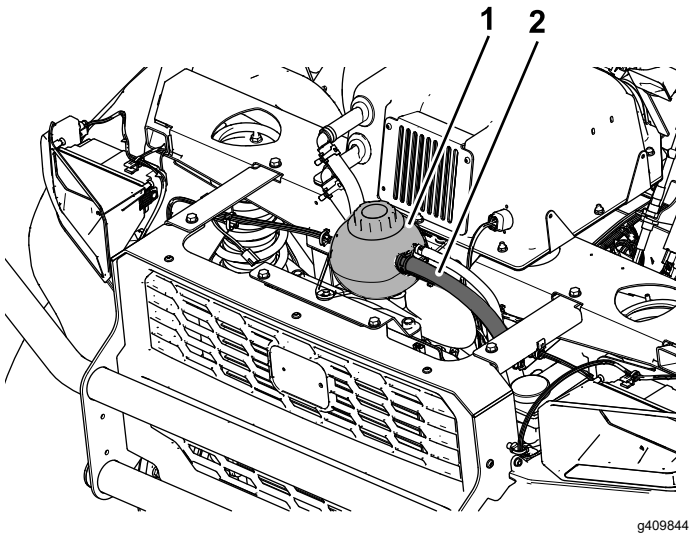

Figure 20
1. Disconnect the existing coolant hose from the side of the coolant tank (Figure 20) and shorten the hose by 23 cm (9 inches).